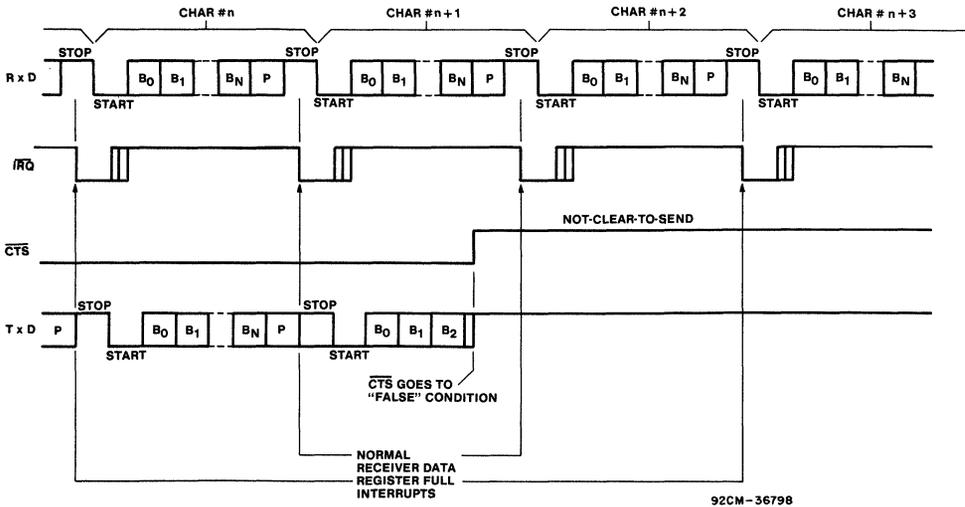

Fig. 14 - Effect of  $\overline{\text{CTS}}$  on echo mode.
**Effect of  $\overline{\text{CTS}}$  on Echo Mode Operation (Fig. 14)**